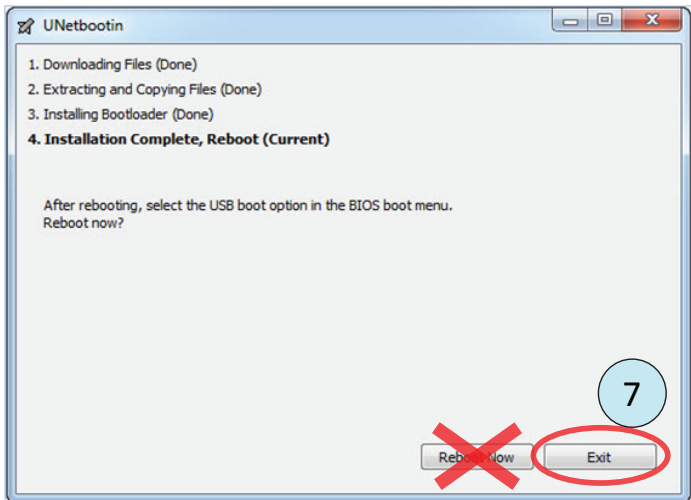

Figure E10. UNETBOOTIN installation complete window.
7) When the copy/burn process is complete, the window in figure E10 will be displayed. **WARNING: DO NOT CLICK THE 'Reboot Now' BUTTON!** Click the **Exit** button or the red X in the upper corner of the window.